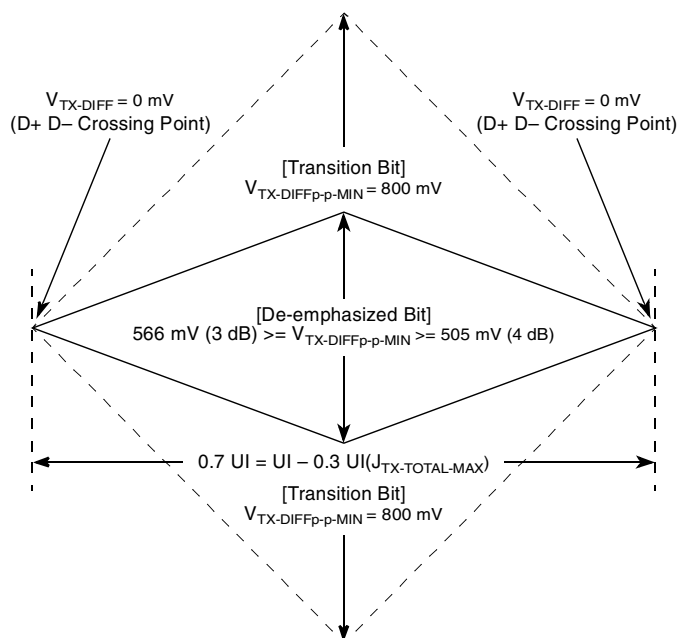
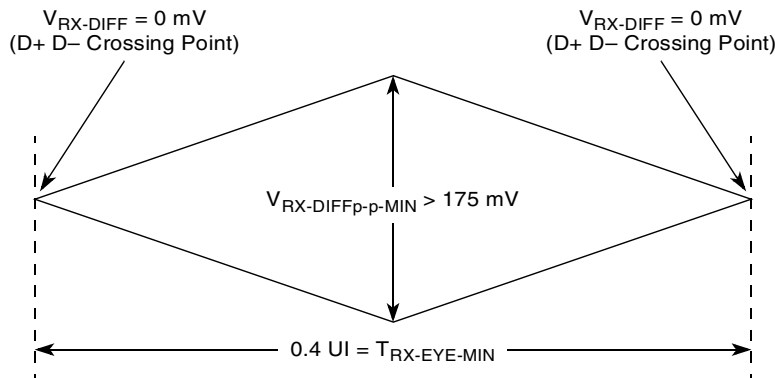
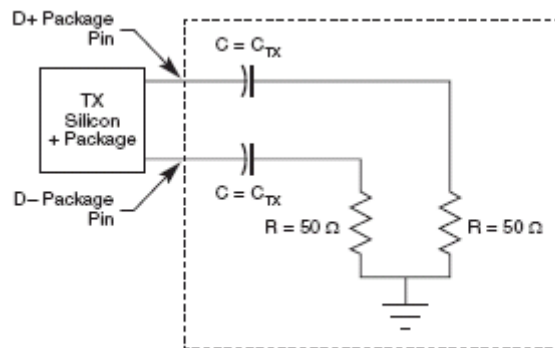

Figure 27. Minimum Transmitter Timing and Voltage Output Compliance Specifications
Figure 28. Minimum Receiver Eye Timing and Voltage Compliance Specification
Figure 29. Compliance Test/Measurement Load
2. Specified at the measurement point into a timing and voltage compliance test load as shown in Figure 29 and measured over any 250 consecutive TX UIs. (Also refer to the transmitter compliance eye diagram shown in Figure 27.)
4. The transmitter input impedance results in a differential return loss greater than or equal to 12 dB and a common mode return loss greater than or equal to 6 dB over a frequency range of 50 MHz to 1.25 GHz. This input impedance requirement applies to all valid input levels. The reference impedance for return loss measurements is 50 Ω to ground for both the D+ and D– line (that is, as measured by a vector network analyzer with 50- Ω probes, see Figure 29). Note that the series capacitors, C_{TX} , is optional for the return loss measurement.
5. Measured between 20% and 80% at transmitter package pins into a test load as shown in Figure 29 for both $V_{\text{TX-D+}}$ and $V_{\text{TX-D-}}$.
The TX eye diagram in Figure 27 is specified using the passive compliance/test measurement load (Figure 29) in place of any real PCI Express interconnect + RX component. There are two eye diagrams that must be met for the transmitter. Both diagrams must be aligned in time using the jitter median to locate the center of the eye diagram. The different eye diagrams differ in voltage depending on whether it is a transition bit or a de-emphasized bit. The exact reduced voltage level of the de-emphasized bit is always relative to the transition bit.
2. Specified at the measurement point and measured over any 250 consecutive UIs. The test load in Figure 29 should be used as the RX device when taking measurements (also refer to the receiver compliance eye diagram shown in Figure 28). If the clocks to the RX and TX are not derived from the same reference clock, the TX UI recovered from 3500 consecutive UI must be used as a reference for the eye diagram.
4. The receiver input impedance results in a differential return loss greater than or equal to 15 dB with the D+ line biased to 300 mV and the D– line biased to –300 mV and a common mode return loss greater than or equal to 6 dB (no bias required) over a frequency range of 50 MHz to 1.25 GHz. This input impedance requirement applies to all valid input levels. The reference impedance for return loss measurements for is 50 Ω to ground for both the D+ and D– line (that is, as measured by a vector network analyzer with 50- Ω probes, see Figure 29). Note that the series capacitors, C_{TX} , is optional for the return loss measurement.
The RX eye diagram in Figure 28 is specified using the passive compliance/test measurement load (Figure 29) in place of any real PCI Express RX component. In general, the minimum receiver eye diagram measured with the compliance/test measurement load (Figure 29) is larger than the minimum receiver eye diagram measured over a range of systems at the input receiver of any real PCI Express component. The degraded eye diagram at the input receiver is due to traces internal to the package as well as silicon parasitic characteristics that cause the real PCI Express component to vary in impedance from the compliance/test measurement load. The input receiver eye diagram is implementation specific and is not specified. RX component designer should provide additional margin to adequately compensate for the degraded minimum receiver eye diagram (shown in Figure 28) expected at the input receiver based on an adequate combination of system simulations and the return loss measured looking into the RX package
The reference impedance for return loss measurements is 50 Ω to ground for both the D+ and D– line (that is, as measured by a Vector Network Analyzer with 50 Ω probes—see Figure 29). Note that the series capacitors, C_{PEACCTX}, are optional for the return loss measurement.
The AC timing and voltage parameters must be verified at the measurement point, as specified within 0.2 inches of the package pins, into a test/measurement load shown in Figure 29.